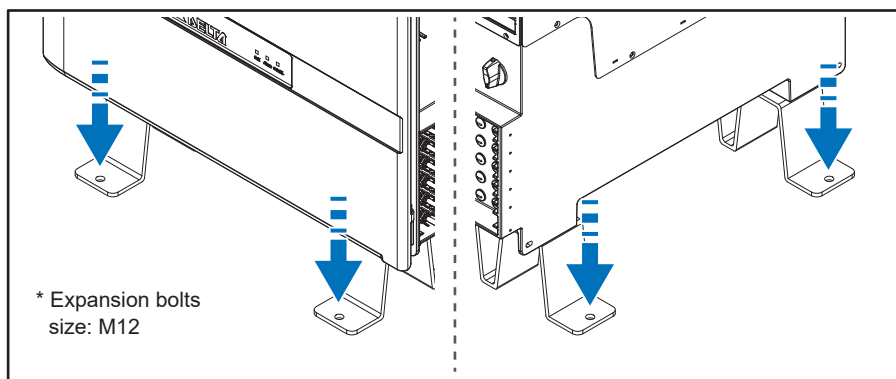

Figure 3-11: To secure inverter grounded brackets to ground-mounting base
2. Mount the inverter with grounded brackets to the ground-mounting base by 4 expansion bolts as **Figure 3-11**.